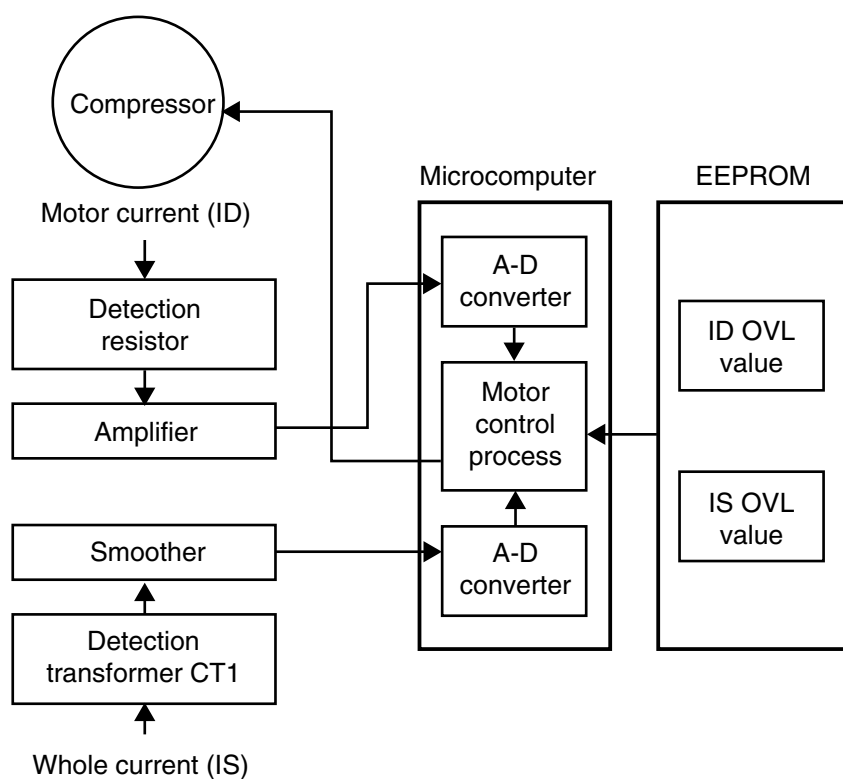
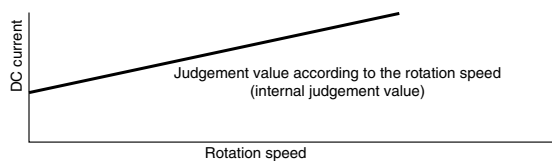

Fig. 6-1 Overload Control System
Fig. 6-4
Fig.6-1 shows the overload control system configuration and Fig. 6-4 is a characteristic diagram on overload judgement values. There are two types of control which has named IS OVL and ID OVL.
La Fig.6-1 représente la configuration du système de contrôle de surcharge et la Fig. 6-4 est un diagramme caractéristique des valeurs de jugement de surcharge. Il existe deux types de contrôle : IS OVL et ID OVL.
Fig. 6-4 shows the rotation speed control. When the voltage at pin (60) of the microcomputer exceeds the set value, the microcomputer decreases the rotation speed of the compressor and reduces the load.